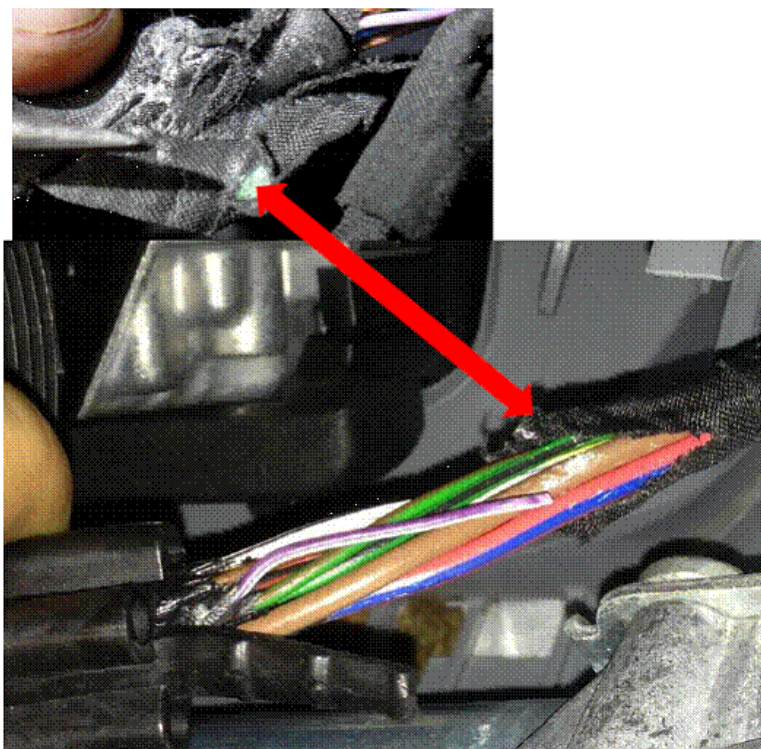

Figure 5. Color imprint on inside of webbing indicates point of damage.
4. Examine the inside of the webbing for a white/green or red/green imprint. This imprint is a result of the production assembly damage to the wire insulation and of the corrosion caused by water ingress (Figure 5).